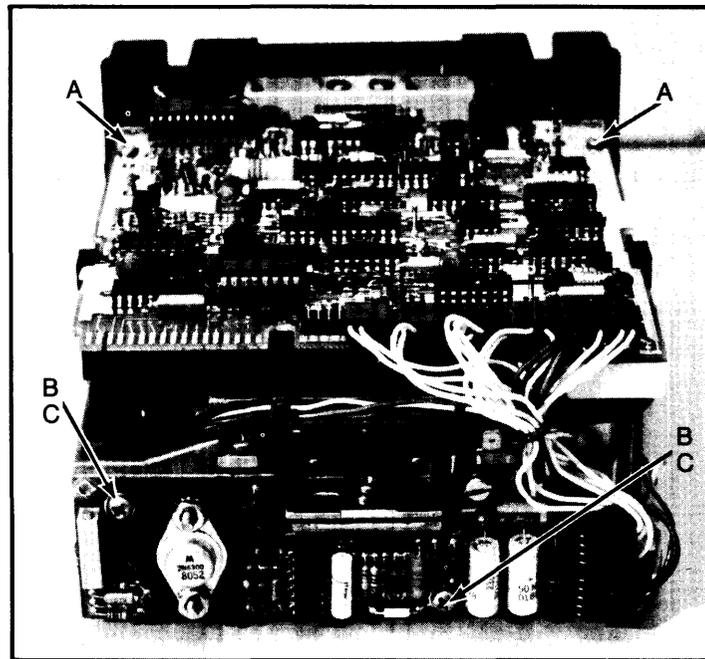

Figure 4-2: Drive Board and Servo Board Removal
To access the internal assemblies, the drive electronics board A1 must first be removed. To do this, refer to Figure 4-2 and disconnect connectors P5, P6 and P8 through P13. Next remove the two screws (A) and slide the board toward the rear of the drive so that the notches in the sides of the board are centered about the two side retainers. Lift the board from the drive and place on a clean dry surface.